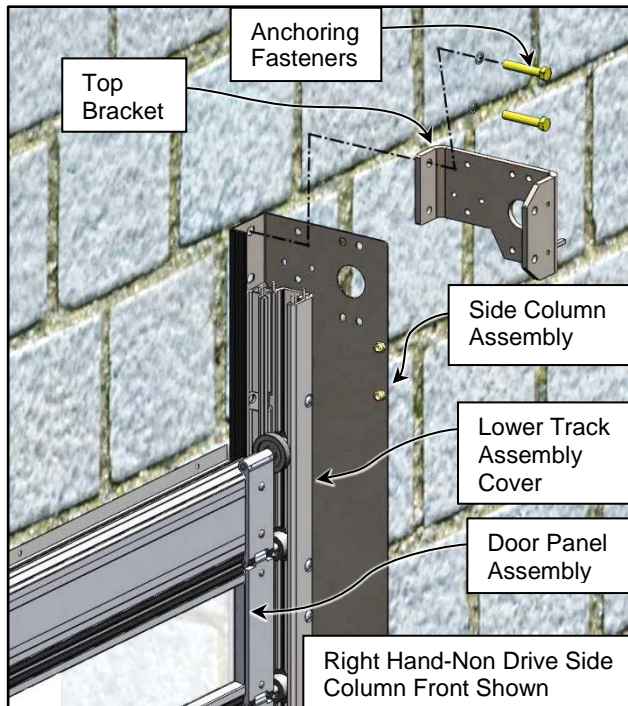
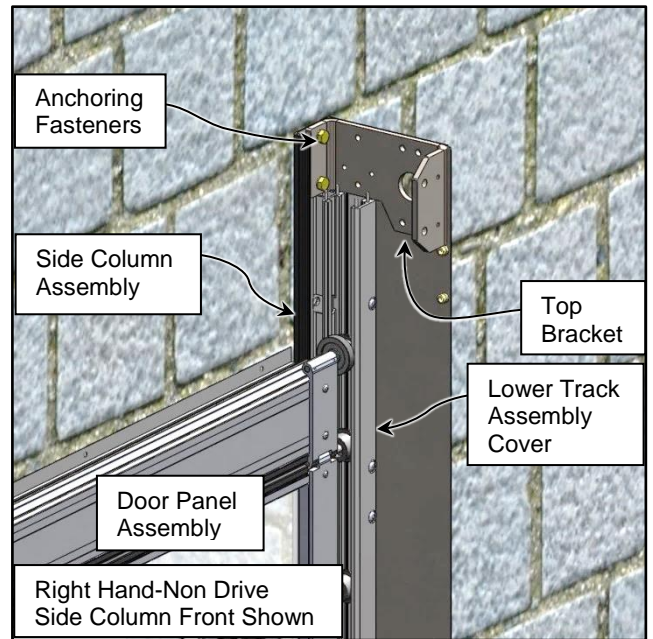

Figure 40
Figure 41
2. On the non-drive side, remove the top two fasteners securing the side column to the wall. Install the top bracket into the side column using the same two fasteners as shown. All holes will align between the bracket and side column plate when properly installed. (See Figure 40 and Figure 41)